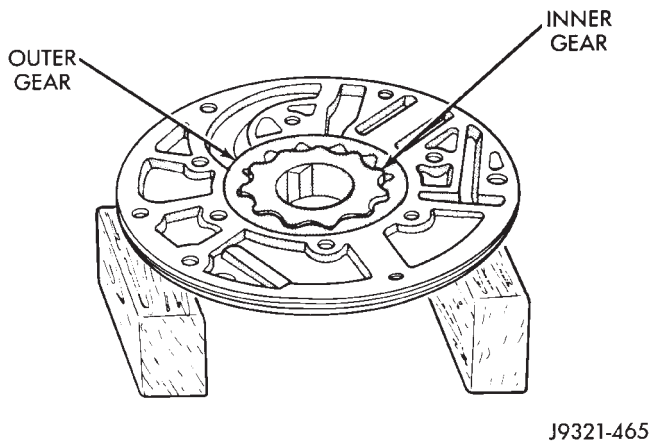

Fig. 48 Pump Inner Gear Installation
(5) Install pump inner gear (Fig. 48).